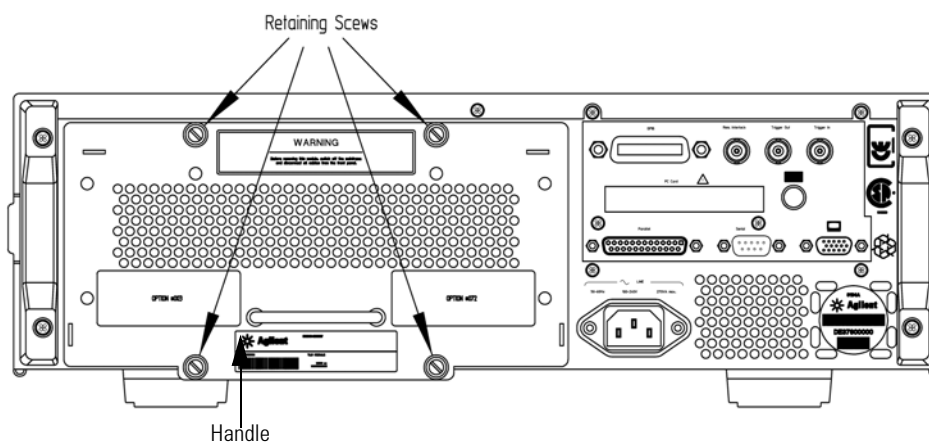

Figure 191 Back Panel of Agilent 8164B Lightwave Measurement System
- 1 Untighten the retaining screws, see Figure 191 , that secure the module in the instrument.